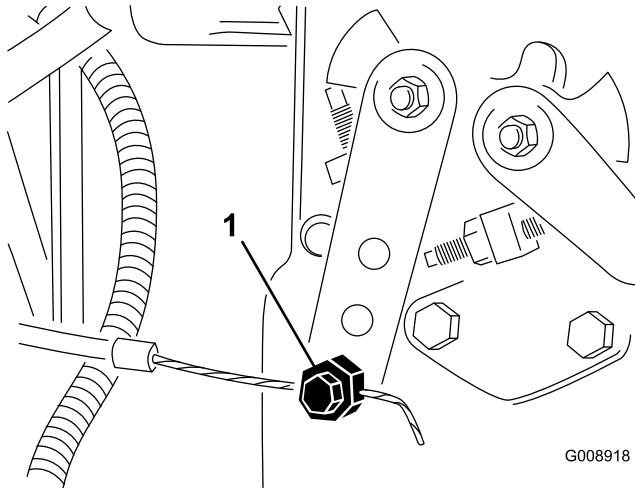

Figure 68
- Loosen the throttle cable connector on the injection pump lever arm (Figure 68).